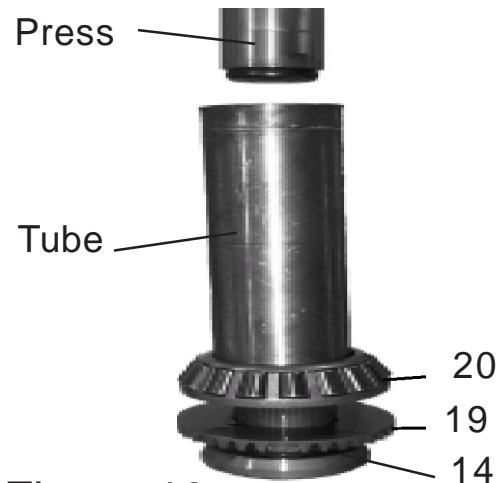

Figure 18
1. Install Gear & Bearing Cone on Shaft. Install Gear (item 19) down over shaft (item 14), make certain Gear is on in correct direction and the guide pin (item 27) is installed. Slide Bearing Cone (item 20) down onto Shaft with small part of Bearing Cone up as shown in Figure 18. Using a tube sleeve (tool shown in last figure of this section) press Bearing cone and Gear down onto shaft with a press. The tube must only contact the inner edge of the bearing. See Figure 40 at the end of this section for tool dimensions.